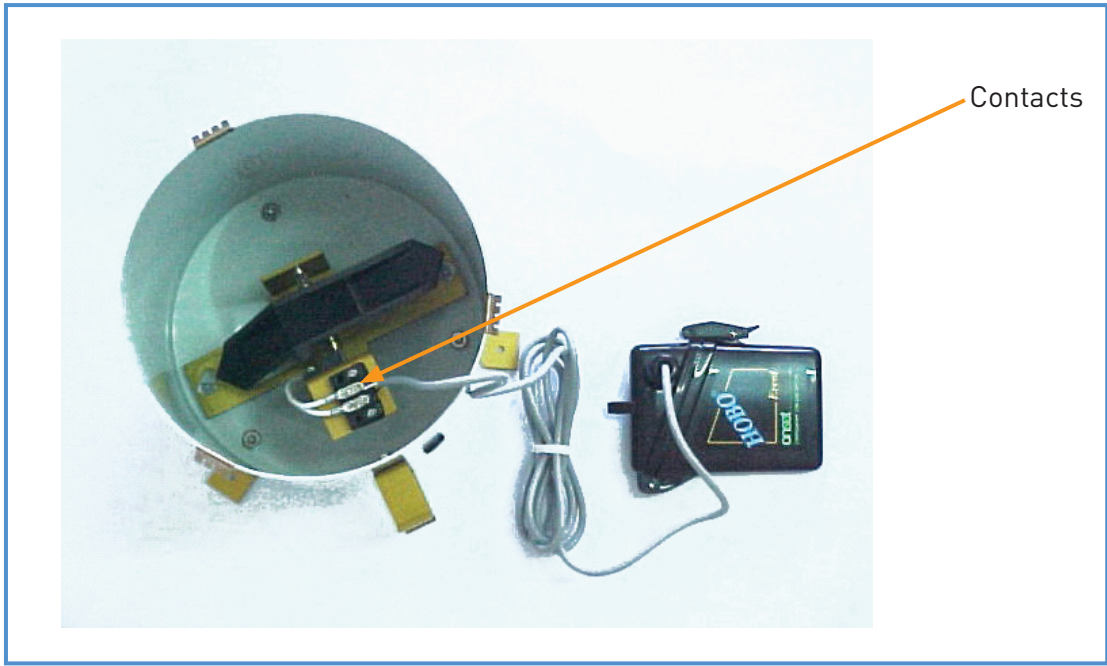

Figure 8: Top View of Tipping Bucket Rain gauge connected to an External HOBO Event Logger.
- Connect the black and white input wires coming from the HOBO Event Logger to the contacts, as indicated in figure 8; polarity does not matter. Be careful not to touch the input wires together as this will record an event.